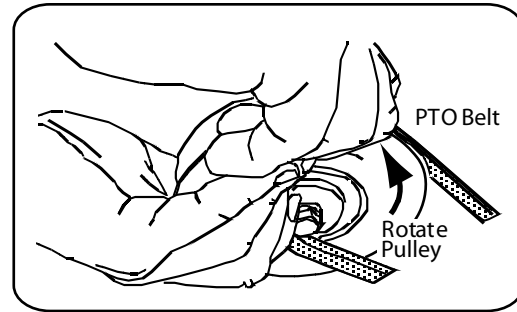

Figure 7-6
- While holding the belt and pulley together, rotate the pulley to the left. Continue holding and rotating the pulley and belt until the belt is fully rolled into the PTO pulley. Refer to Figure 7-6.